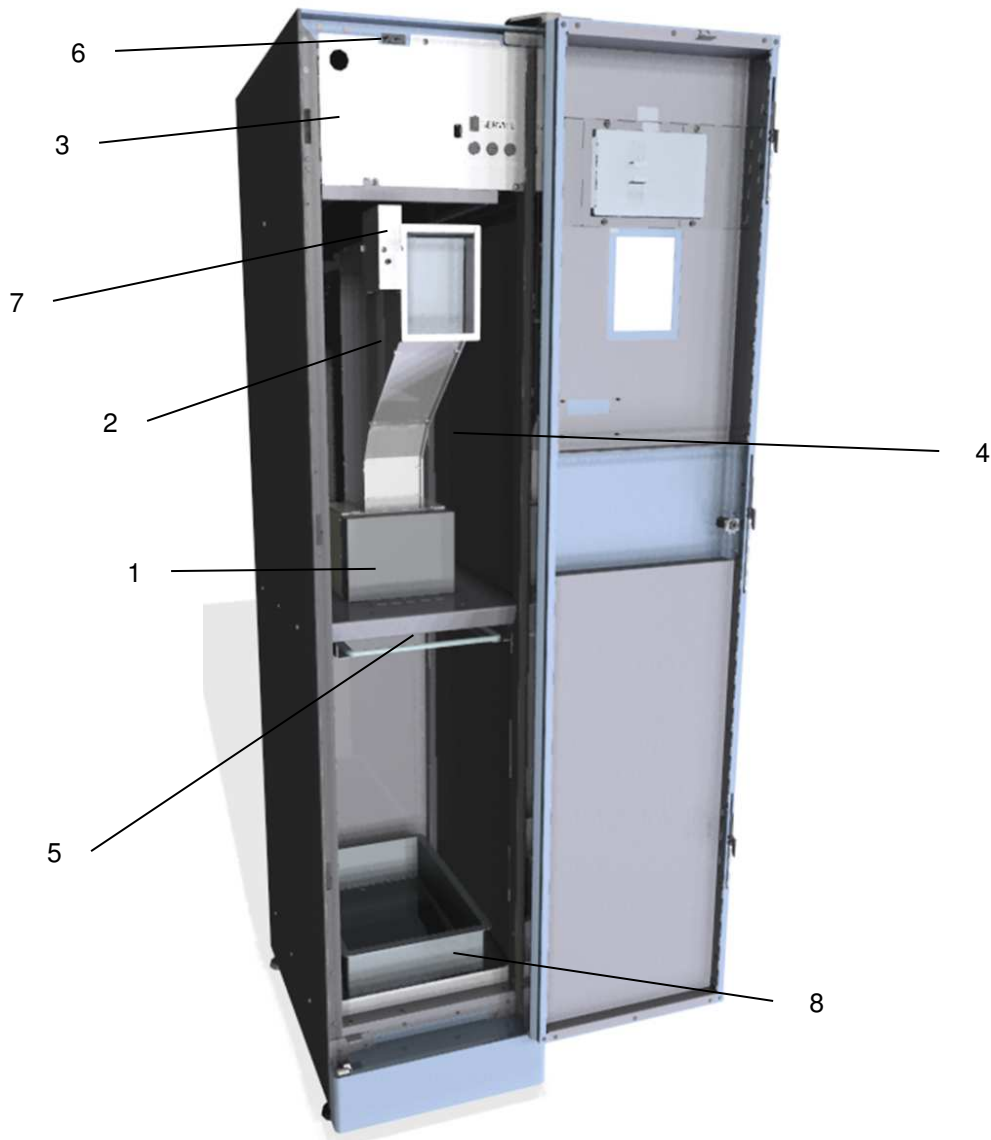

fig. 4
In fact, the printout normally refers to what is detected by the photocell, ref. 5 Figure 4, which can only distinguish the passage of bottles or cans if there is an adequate lapse between them.